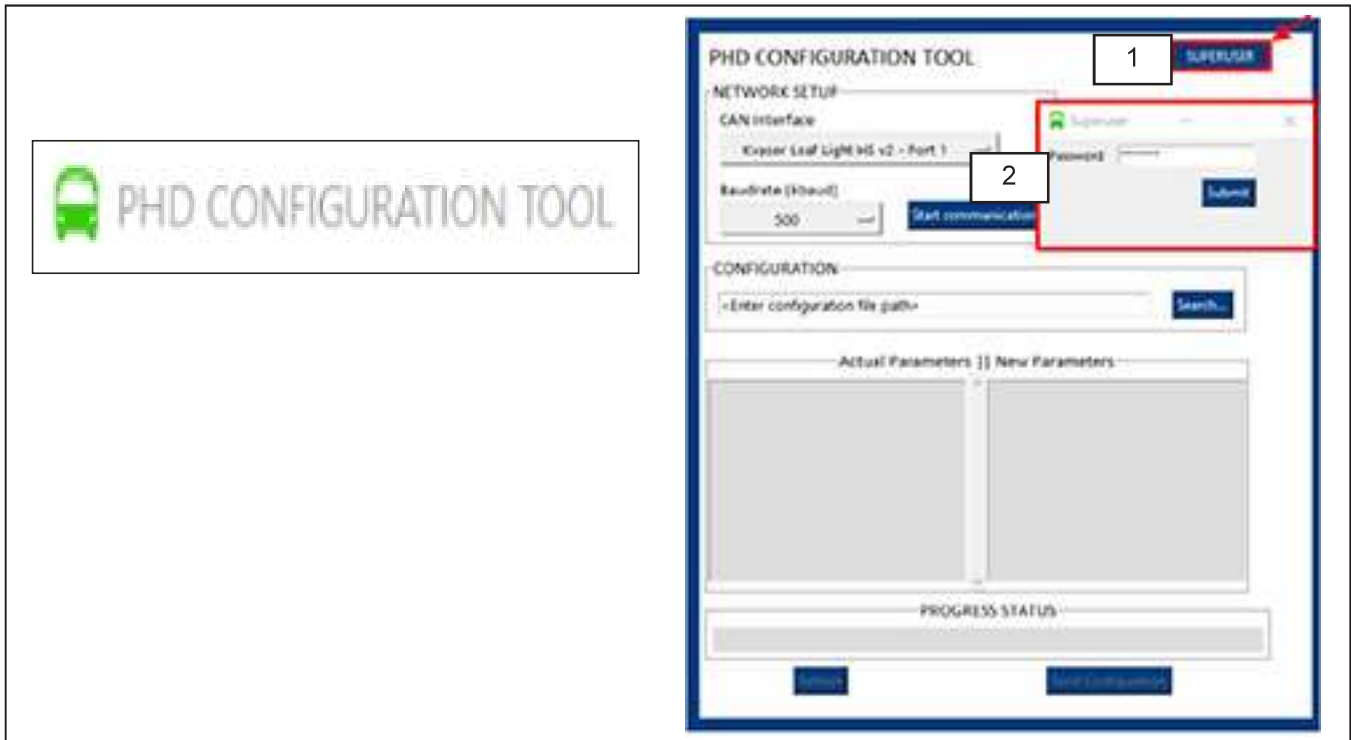

Figure 16 - PHD Configuration Tool Icon and Program Opening Menu
- 1.22. Click the **PHD CONFIGURATION TOOL** icon to open the program. See Figure 16.
- 1.23. Click the **SuperUser** (1) button and enter the password **volvo99** (2) in the Superuser box. See Figure 16.